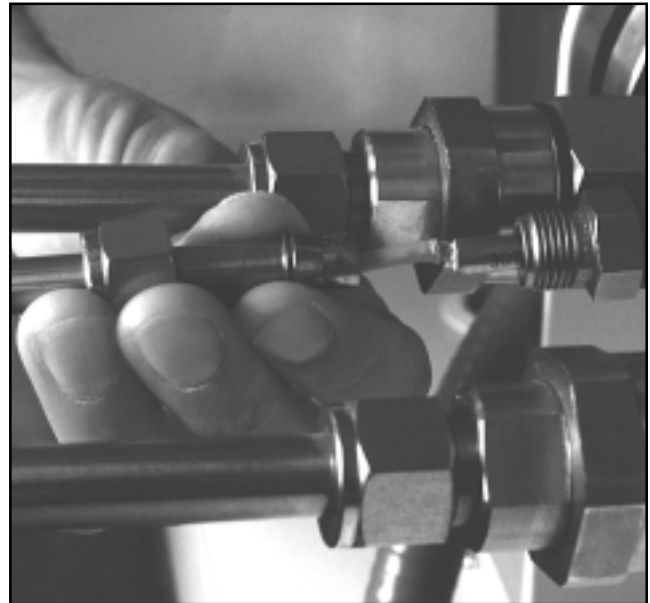

Figure 8: Thermocouple Replacement
3. Loosen the tubing nuts on both ends of the thermocouple assembly (refer to Figure 8).